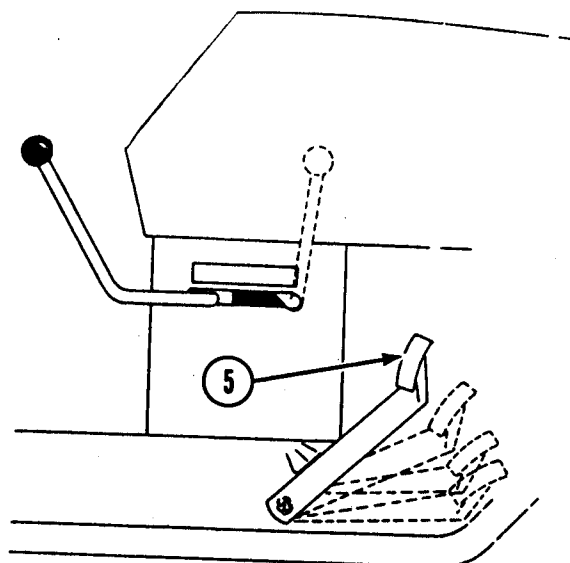

Figure 4
⑤ CLUTCH BRAKE PEDAL (Gear Shift Models) — Figure 4